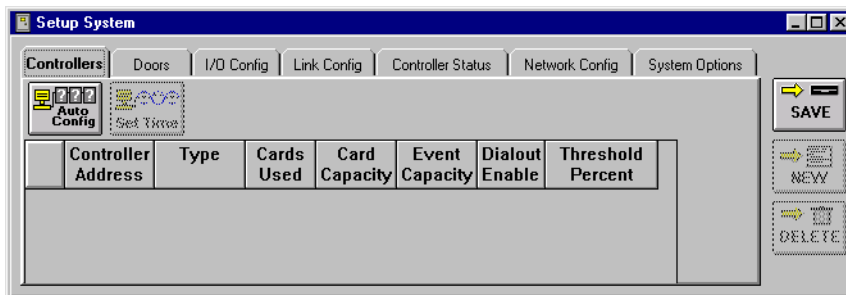

Figure 14: Setup System Window
- Click the Setup ⇒ System pull-down menu or click the  button on the tool bar. The Setup System window appears (see Figure 14).